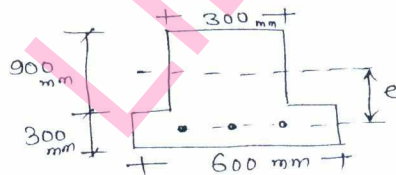

Fig.Q3
- 3 A prestressed concrete beam of inverted T-beam as shown in Fig.Q3 and is simply supported over a span of 16 m. The beam is post-tensioned with a 3-Freyssinet cables, each containing 12 wires of 7 mm dia placed as shown at the mid span. If the initial prestress is 1000 N/mm², calculate maximum uniformly distributed load if the maximum compressive stress in concrete is limited to 14 N/mm² and tensile stress is limited to 1 N/mm². Assume loss of prestress as 15%. (20 Marks)